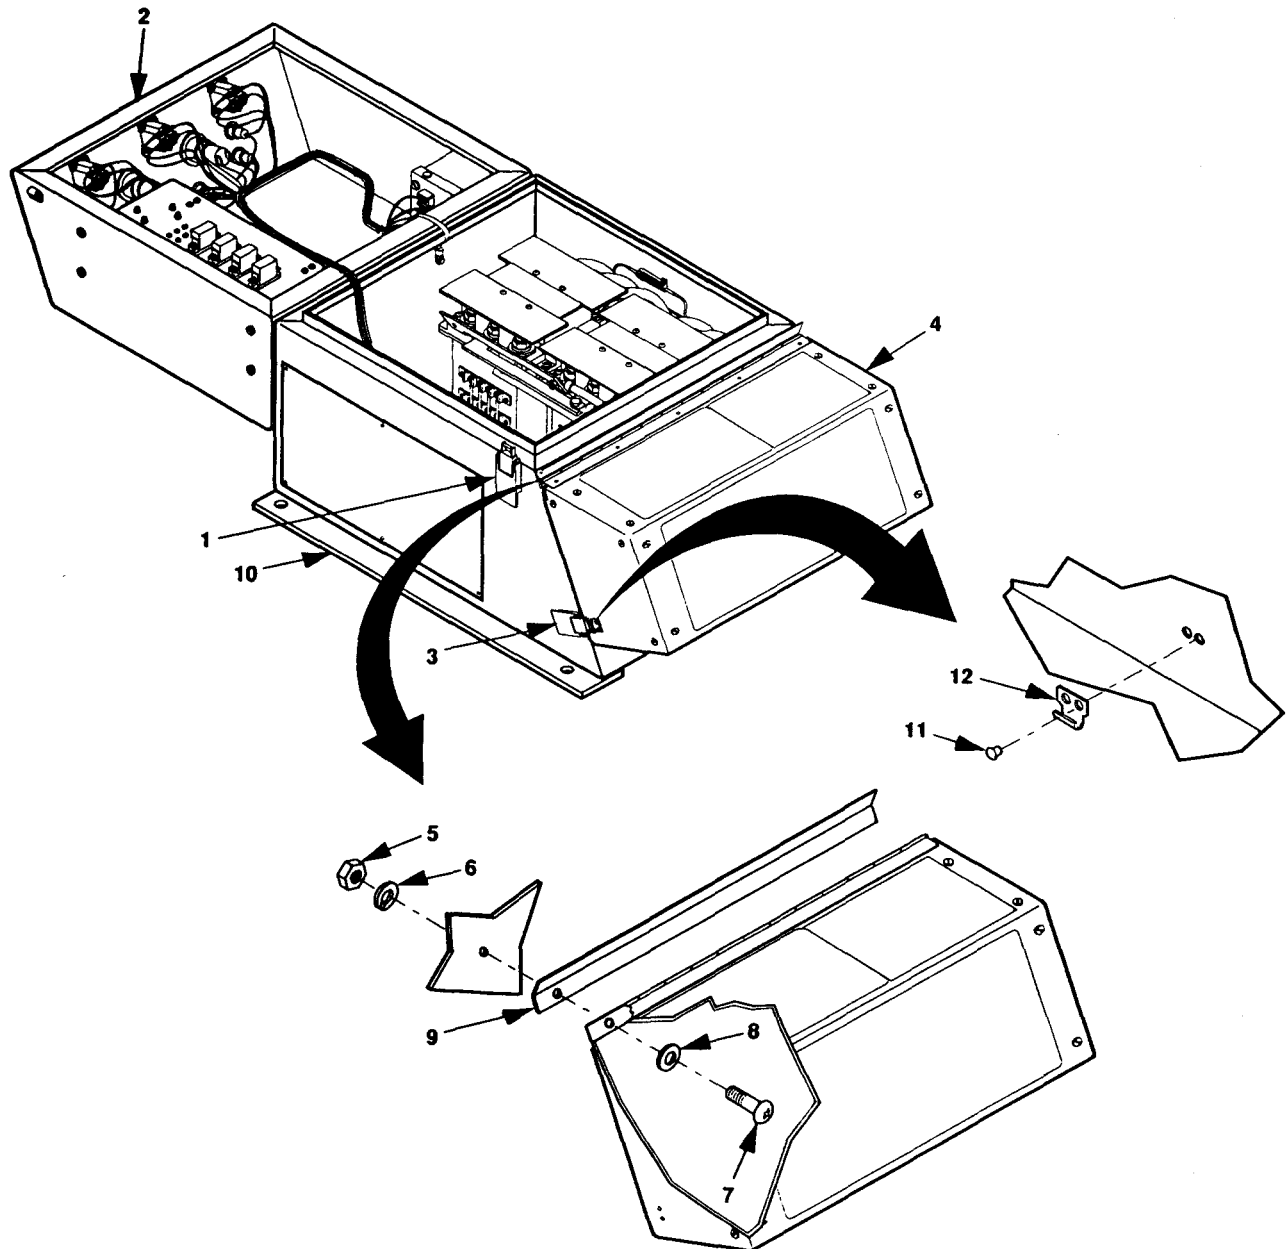

Figure 4-18. Loud Terminal Cover.
1. Release clamping catches (1, figure 4-18) and open switch box cover (2).
2. Release clamping catches (3) and open load terminal cover (4).
3. Remove six nuts (5), lock washers (6), screws (7), and flat washers (8) and remove load terminal cover (4) and stop (9) from switch box (10).